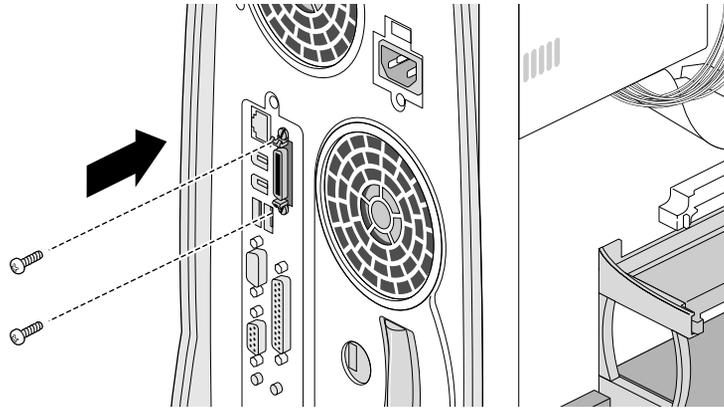

Figure 5-7 Installing the Display Option Card Screws
6. Replace the two screws, as shown in Figure 5-7.